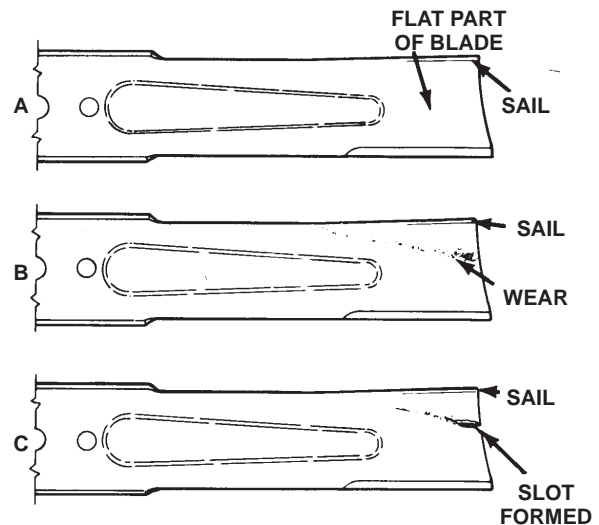

Figure 35
2. Examine the cutting ends of the blade carefully, especially where the flat and curved parts of the blade meet (Fig. 35-A). Since sand and abrasive material can wear away the metal that connects the flat and curved parts of the blade, check the blade before using the machine. If wear is noticed (Fig. 35-B), replace the blade; refer to Removing the Cutting Blade, page 23.
If the blade is allowed to wear, a slot will form between the sail and flat part of the blade (Fig. 35-C). Eventually, a piece of the blade may break off and be thrown from under the housing, possibly resulting in serious injury to yourself or bystanders.